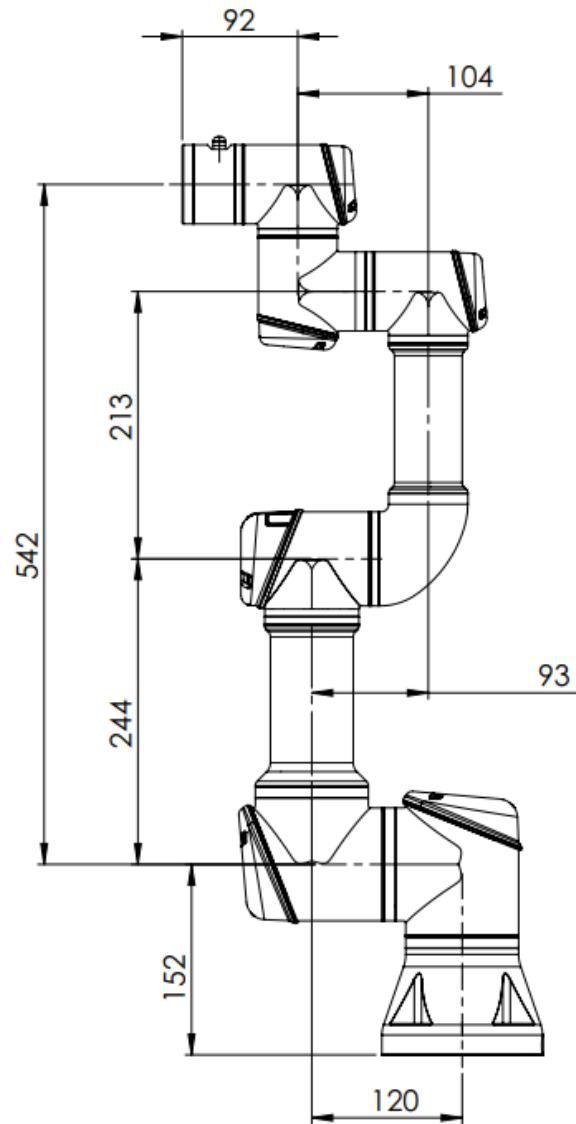

Figure 4.5: Approximate Dimensions of the UR3e in mm. \*EACH UR3e IS SLIGHTLY DIFFERENT DUE TO ITS MANUFACTURE TOLERANCE.
- Figure 4.5 shows the dimensions of all of the links of the UR3e.